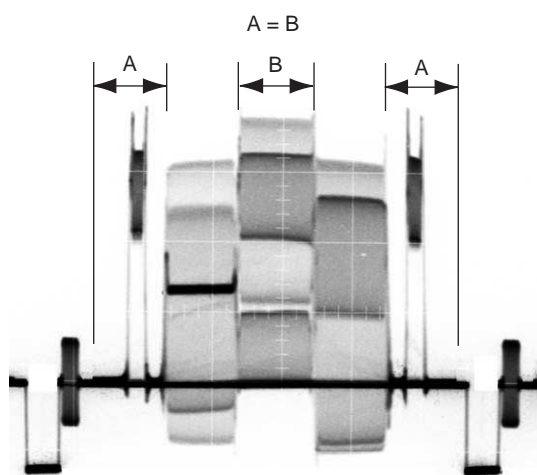
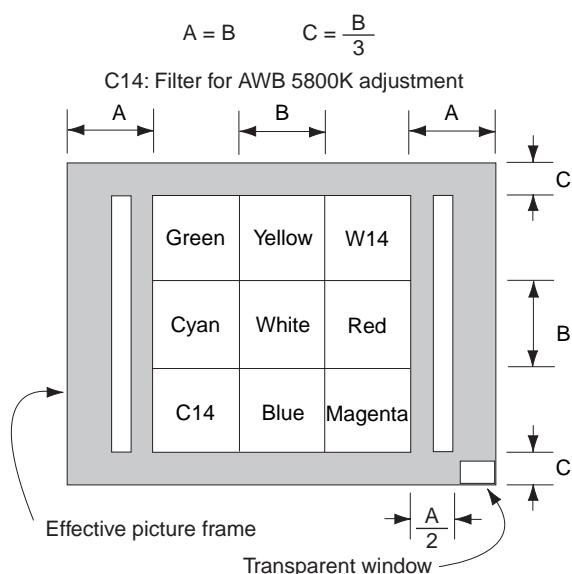

Fig. 6-1-28
Fig. 6-1-30
- 3) Upon successful completion of "1. Data Setting during Camera Adj.", "2. Picture Frame Setting" is executed. The following message is displayed, and then referring to Fig. 6-1-28 to Fig. 6-1-30, set the subject and click the **[OK]** button.
- 3) Upon successful completion of “1. Data Setting during Camera Adj.”, “2. Picture Frame Setting” is executed. The following message is displayed, and then referring to Fig. 6-1-28 to Fig. 6-1-30 (See page 6-20), set the subject and click the **[OK]** button.